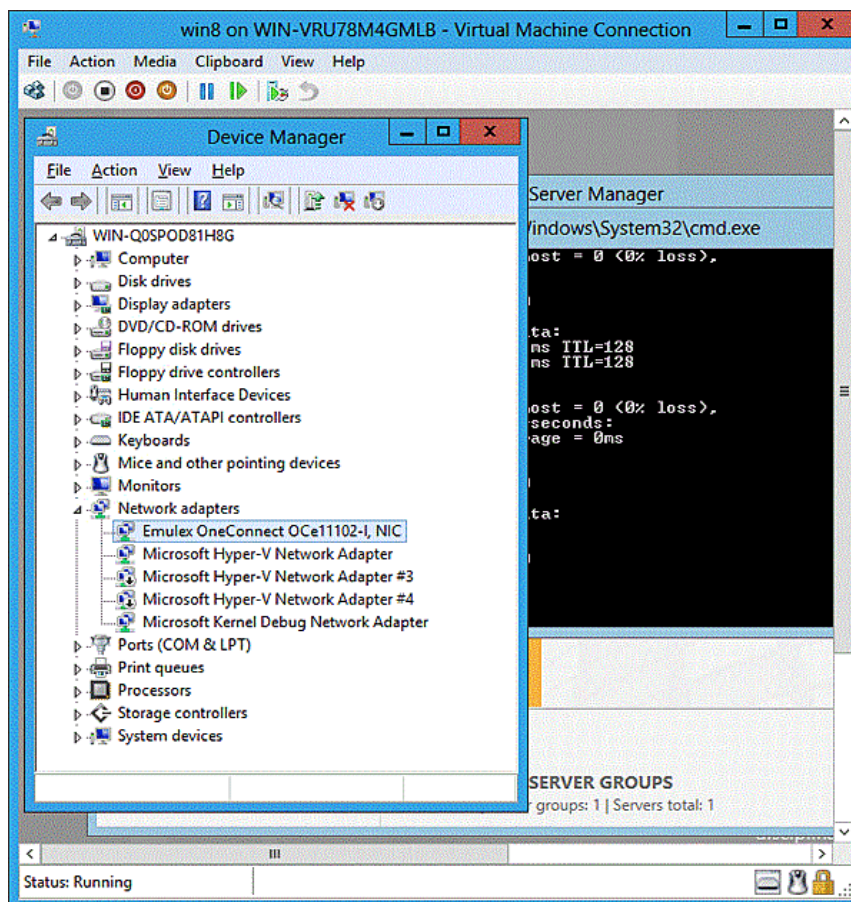

Figure 3-4 Device Manager for Windows Server 2012
2. Click **Device Manager**. The Device Manager opens (see Figure 3-4 on page 79).
6. Click **Device Manager**. The Device Driver opens (see Figure 3-4 on page 79).